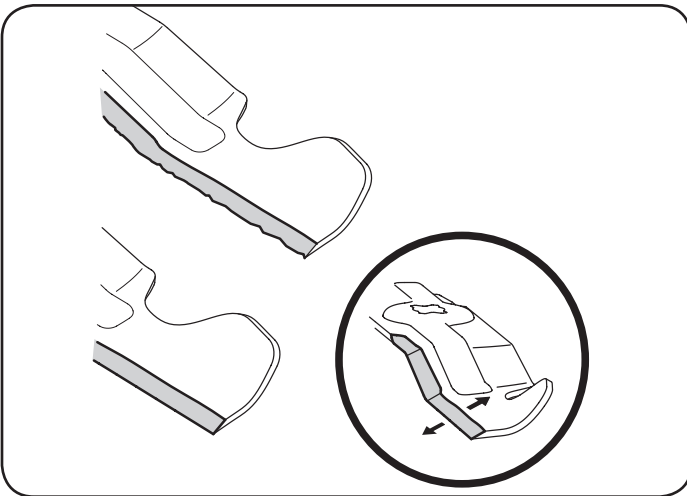

Figure 22
4. To properly sharpen the cutting blades, remove equal amounts of metal from both ends of the blades along the cutting edges, parallel to the trailing edge, at a 25°- to 30° angle. Always grind each cutting blade edge equally to maintain proper blade balance. See "Figure 22".